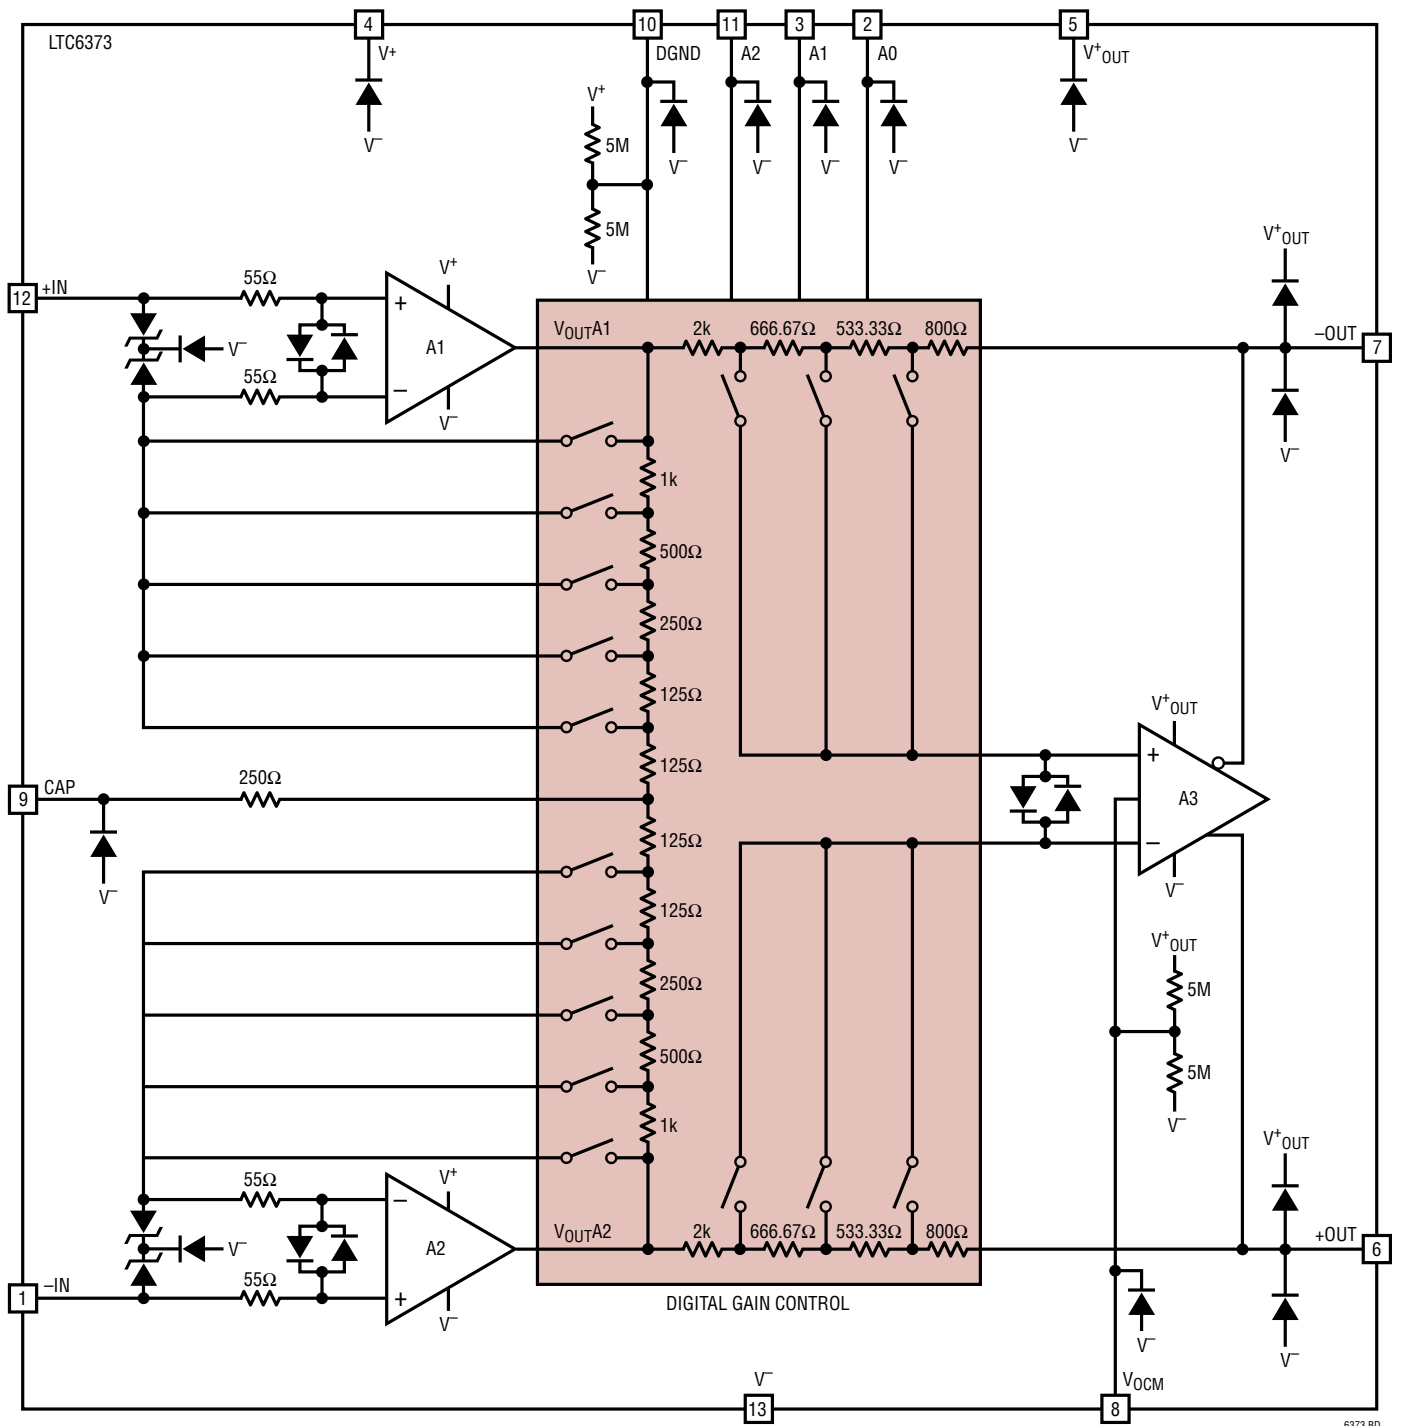

Figure 1. Simplified Block Diagram
**V+OUT (Pin 5):** Positive Power Supply for the Output Differential Amplifier inside the LTC6373 (the amplifier marked as A3 in Figure 1 of this data sheet).  $V^+$ OUT pin is normally tied to  $V^+$  pin, however the user may also choose a lower voltage for  $V^+$ OUT to save power dissipation or to help protect ADC inputs. The voltage on  $V^+$ OUT pin should never be higher than  $V^+$  pin. The operating voltage range for  $V^+$ OUT is  $(V^- + 9V) \leq V^+$ OUT  $\leq V^+$ .
The LTC6373 is a monolithic instrumentation amplifier based on the classic 3-op-amp topology, as shown in the Block Diagram of Figure 1. A parallel interface allows users to digitally program gains to one of the seven available settings ( $G = 0.25, 0.5, 1, 2, 4, 8,$  and  $16V/V$ ) while the 8th state puts the part in shutdown mode (which reduces the current drawn from the supplies to  $220\mu A$ ). Gain control is achieved by switching resistors in an internal, precision resistor array (as shown in Figure 1). Although the LTC6373 has a voltage feedback topology, the gain-bandwidth product increases at higher gain settings because each gain has its own frequency compensation, resulting in increased bandwidth at higher gains and minimum phase variation across all gains.
associated with internal nodes, as they experience a combination of gained differential signal and common mode signal. Referring to the Simplified Block Diagram of Figure 1, the output swing of amplifiers A1, A2, and A3 as well as the common mode input range of the output differential amplifier A3 impose limitations on the valid operating range. The graphs in Figure 2 show the maximum input common mode voltage limits where a valid output is produced for each gain setting of LTC6373.
To prevent damage, the LTC6373 has a comprehensive protection scheme, especially on the input pins, as illustrated in the Simplified Block Diagram of Figure 1. The input current applied to the LTC6373's input pins should be kept under  $\pm 10mA$ . To achieve additional input protection, external series resistors and/or low leakage clamp diodes should be used.